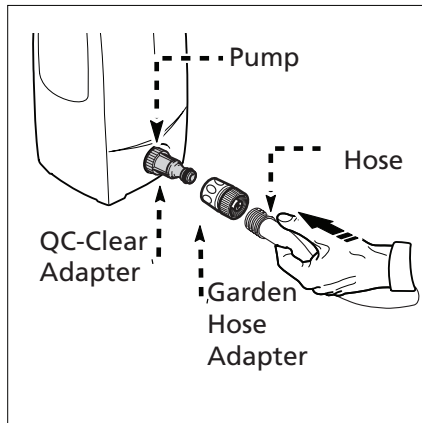
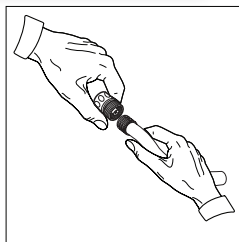

Fig. 10
Fig. 11
- First, remove the plastic shipping cover on the water inlet on the front of the power washer. Attach the clear plastic adapter by screwing it into the water inlet (Fig. 10). Hand tight is fine. Next screw on the blue/black collar attachment to your garden hose (Fig. 11). Slide the blue/black collar onto the clear adapter, it will “click” into place. The water is now connected to your power washer.